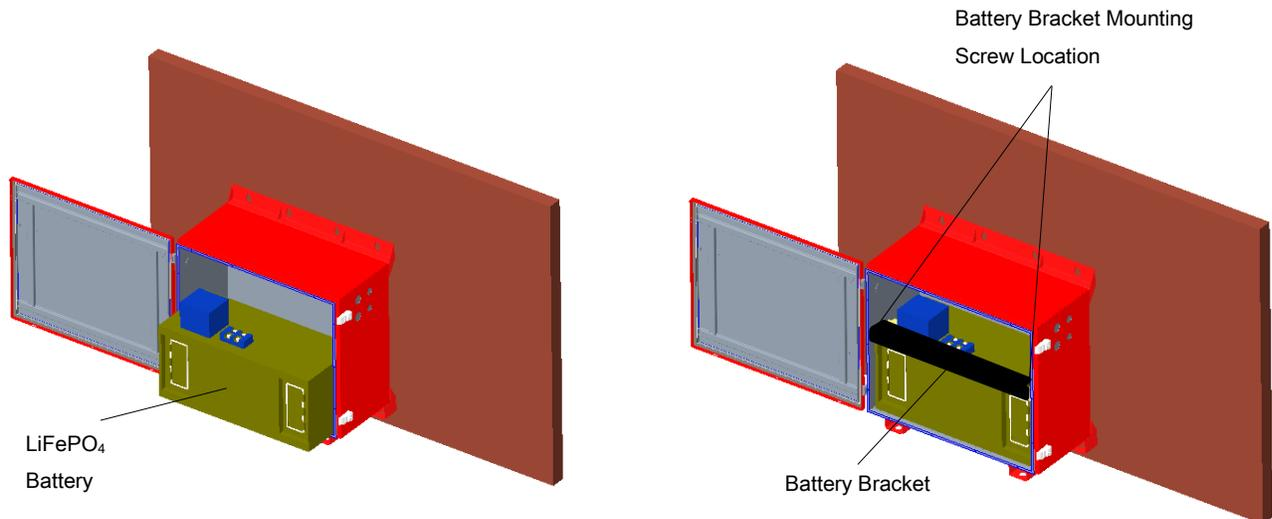

Figure 34: Battery Installation and Retaining Bracket
- Install the LiFePO₄ battery into the BBU cabinet as shown in Figure 34. This step may require two people. Gently slide the battery assembly into position.
- Install the battery retaining bracket and secure with 4 x M6 Screws as shown in Figure 34.